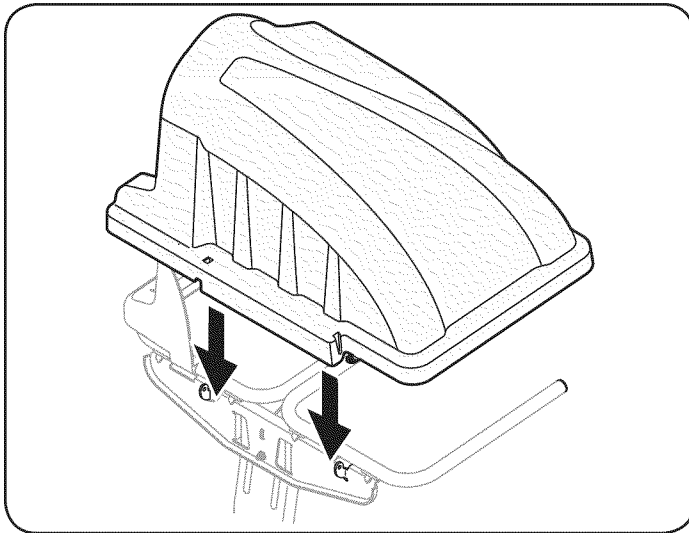
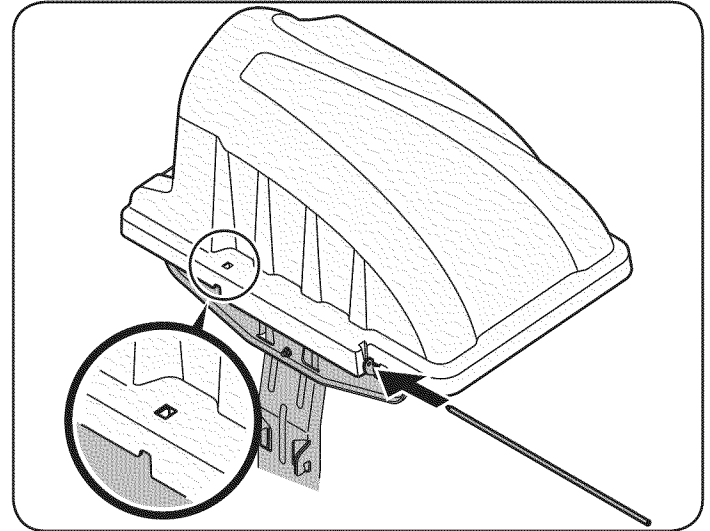
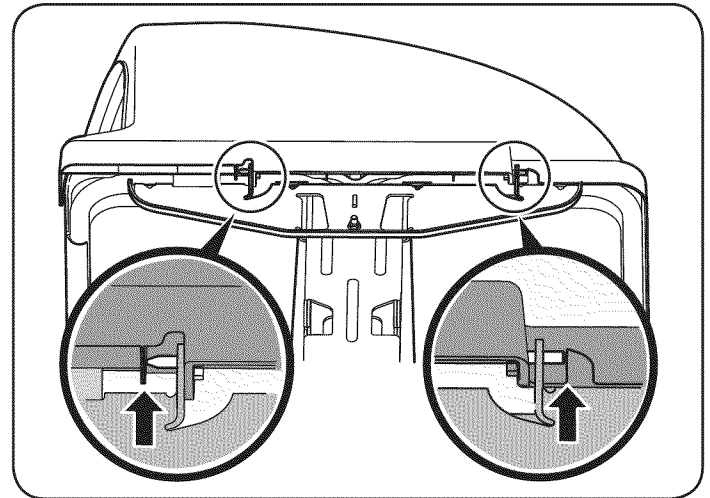

Figure 9
Figure 10
Figure 11
11. Install the bagger cover onto the bag support assembly, as seen in Figure 9. The plastic cover goes inside of the two mounting tabs.
12. Slide the hinge pin into the hole located on the mounting tab, as in Figure 9. Use the cut-out window (See inset in Figure 10) to line up the hinge pin on the other side and push pin all the way in until it reaches the end-stop. At this point the pin clips into place and is secured by a tab in the bagger cover. See Figure 11.